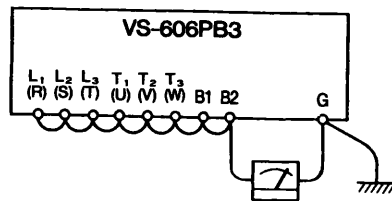

Fig.8 High Voltage Test
- (1) Remove the inverter main circuit and control circuit terminal wiring and execute the test only between the main circuit terminals and ground [ground terminal (G) (E)] as shown in Fig.8.
- (2) The equipment is normal with the insulation resistance tester indicating 1MΩ or more.